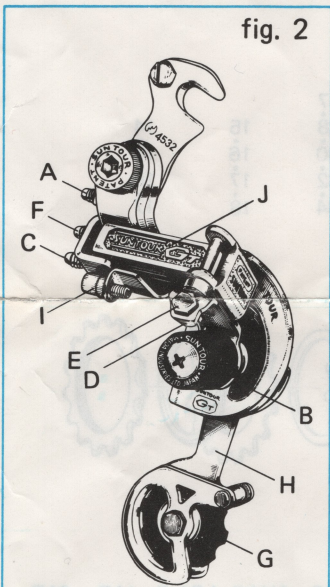

fig. 2
Set the chain on the top gear (smallest sprocket) so that the Main Body (J, fig 2) becomes parallel to the chain stay by tightening or loosening the Angle Adjusting Screw (A, fig 2).
To Set the Jockey Pulley (B, fig 2). Be sure that the Jockey Pulley is directly under the top gear (smallest sprocket). If it is not, adjust the Jockey Pulley position by tightening or loosening the Adjusting Screw "C" (C, fig 2).
Connect the wire coming from the lever to the Derailleur Anchor Bolt (E, fig 2). Before tightening the Anchor Bolt, be certain that the shift lever is in a full forward position and that the inner wire is pulled tight.
Turn the Bicycle Gear Crank slowly forward and slowly shift the Derailleur up the low gear sprocket (largest sprocket). Be sure that the Jockey Pulley is directly under the low gear when the shifting lever is pulled to a full back position. Adjust the Jockey Pulley by tightening or loosening the Adjusting Screw "F". (F, fig 2).
Set the chain to the largest front gear crank sprocket and to the smallest rear freewheel sprocket. Adjust the chain length so that the Tension Pulley (G, fig 2) becomes perpendicular (90°) to the floor.
However, if the low gear sprocket (largest sprocket) or your freewheel is 30T, 32T or 34T, add two(2) additional chain links. In this instance, the Tension Pulley (G, fig 2) is 100° to the floor (fig 8).